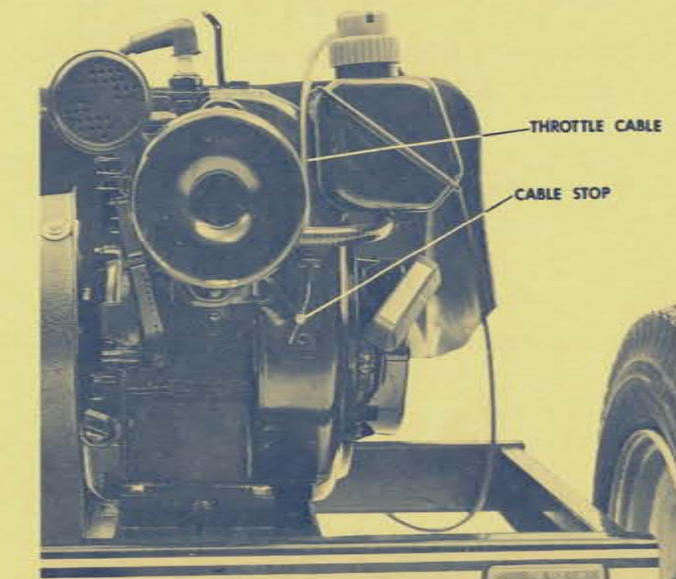

Figure 2
1. Check to see that the throttle control is in the idle position and that the engine throttle linkage is in the full idle position. If not, see throttle adjustment on Page 5. (See Fig. 2.)
1. Loosen cable stop screw and allow throttle lever to move to full idle position. (See Fig. 2.)